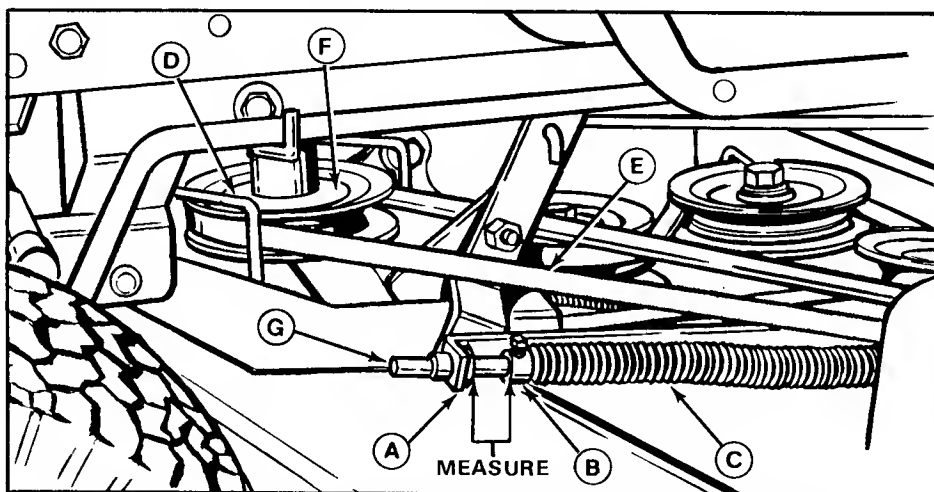
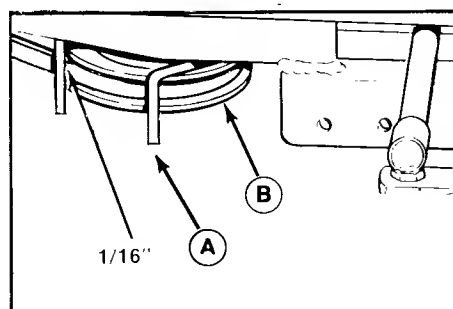

Figure 34. Mower Drive Belt Tension Adjustment - 42" Mower Shown.
Figure 35A. Right Hand Belt Stop, PTO Pulley - 42" Mower
2. Measure the distance between the PTO rod guide (A, figure 34) and the set collar (B). For the 36" mower the measurement should be $\frac{3}{8}$ to $\frac{1}{2}$ inch (10 to 13 mm). For the 42" mower the measurement should be one inch (25.4 mm).
4. Loosen the setscrew in the set collar (B). Move the rod (G) forward to increase gap, or backward to decrease gap. Retighten the setscrew.
Adjust the left-hand belt stop (figure 34) and the right-hand belt stop (figure 35A or 35B) to obtain $\frac{1}{16}$ in (1.5 mm) from belt with PTO engaged. Loosen capscrew to adjust. If $\frac{1}{16}$ inch cannot be obtained without touching pulley, place as close as possible.